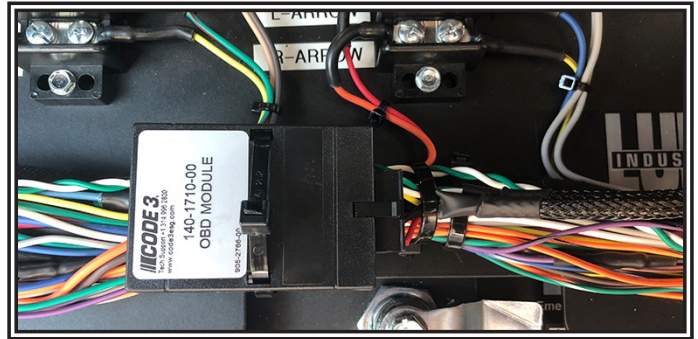

Figure 8
Step 6. Connect the OBDII Device to the 14 Pin connector on the OBDII Harness. Secure the device away from moving parts. See FIGURE 8.